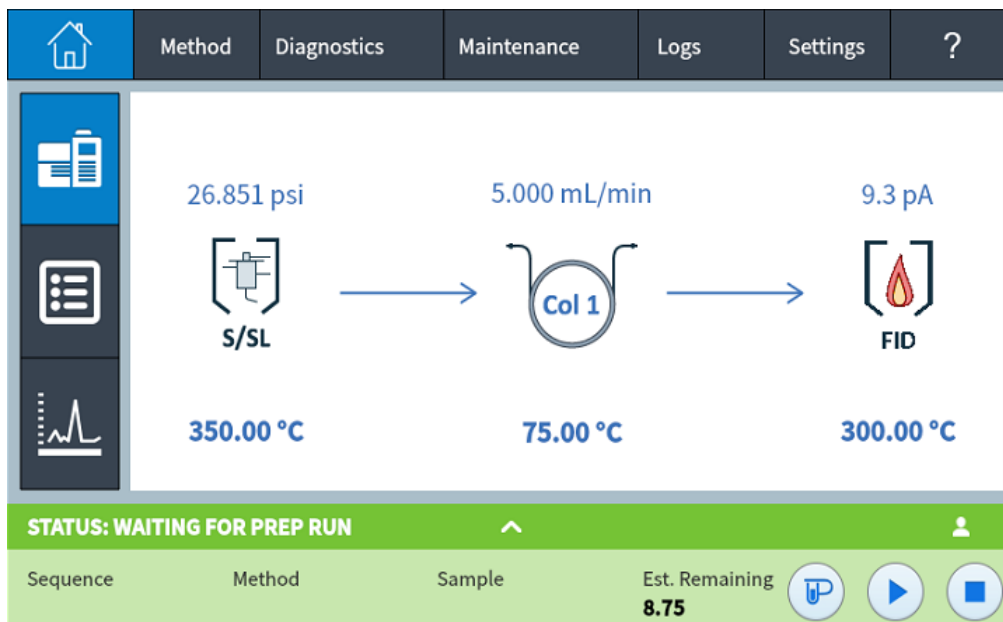

Figure 3 Browser UI home page
- 4 Press Enter. The browser UI launches in the browser. See Figure 3.